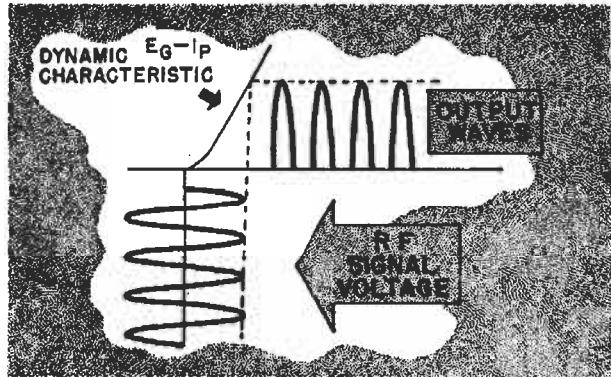

FIG. 7. Operating an r.f. stage at cut-off, the output wave is a series of pulses, but they are reconstructed by the following resonant circuit.
$VT_1$  is forced to operate on the curved portion of its characteristic (Fig. 7) by, say, excess bias and low screen voltage caused by leakage in condenser  $C_1$ .
► Similarly, the first detector is designed to operate at the plate current cut-off point just like any other detector. It must cut off half the wave (Fig. 7) to give the necessary mixing action. If a defect occurs *the detector may work on the straight portion of its curve* and become more of an amplifier than a detector. Some mixing of